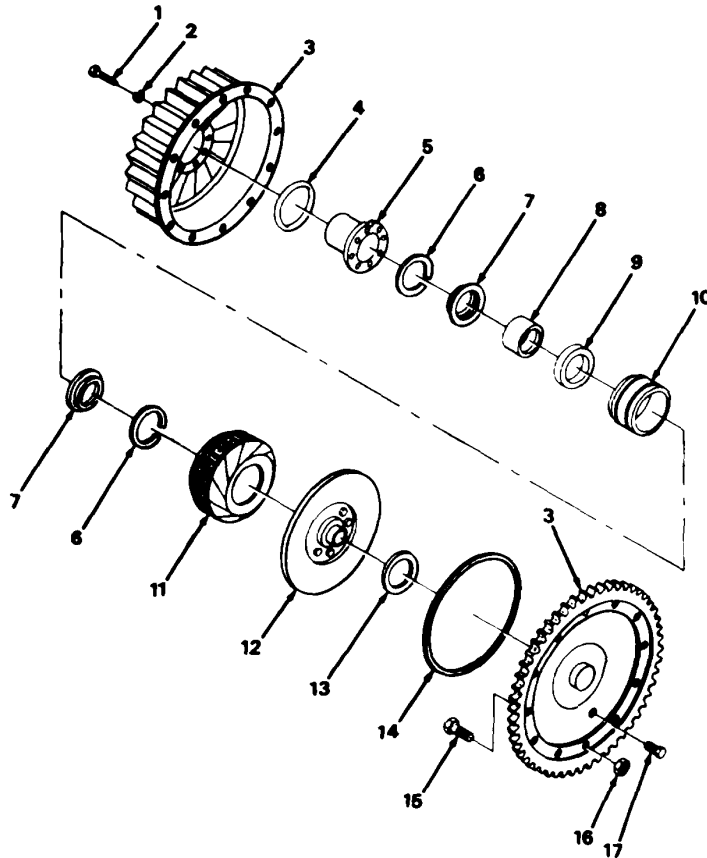

Figure 71.1. Torque converter components.
(9) Disassemble torque converter (fig. 71.1). Paragraphs 43c and 43d are superseded as follows:
Page 85. Figure 71.1 is added as follows: